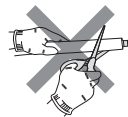
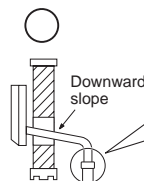

Fig. 1
Fig. 2
- Attach conduit pipe (for rear piping) / elbow joint (for right, left, or downward piping) to conduit plate with lock nut. The thread of the installed conduit pipe / elbow joint appearing inside should be less than 3/8 inch (10 mm). (Fig. 1) Elbow joint should appear less than 1-3/16 inches (30 mm) outside. (Fig. 2)
- Place the refrigerant piping and the drain hose together, then firmly apply felt tape (7) from the end. Felt tape (7) overlap width should be 1/3 the tape width. Use a bandage stopper at the end of felt tape (7).
- Pull out the drain hose at the back left of the indoor unit. (Fig. 2)
- Do not cut the drain hose of the unit. (Fig. 1)
- The drain hose should point downward for easy drain. (Fig. 2)
- 1) Cut the copper pipe as straight as possible with a pipe cutter. (Fig. 1, 2)
Removal procedure (Fig. 1, 2)